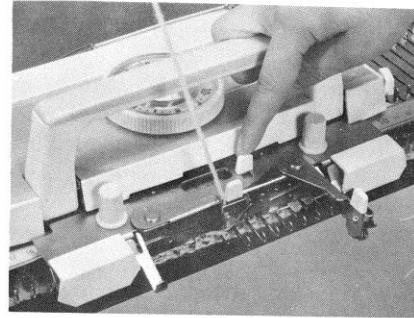

Fig.124
- a) Pull the release lever toward you and at the same time raise the carriage slightly at the front in order that the carriage is disconnected from the front runner rail. (Fig.124)